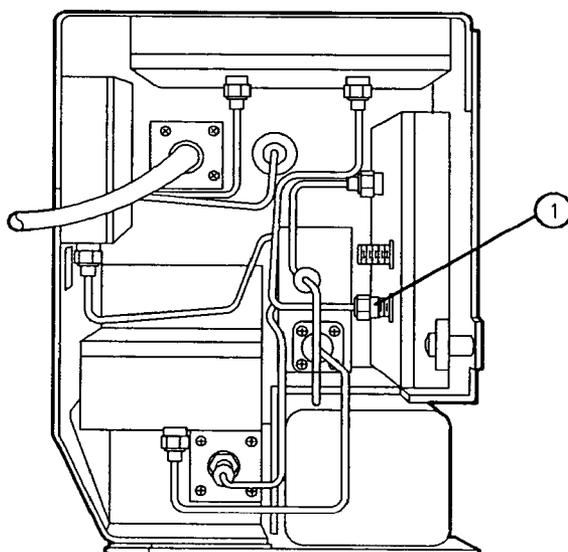
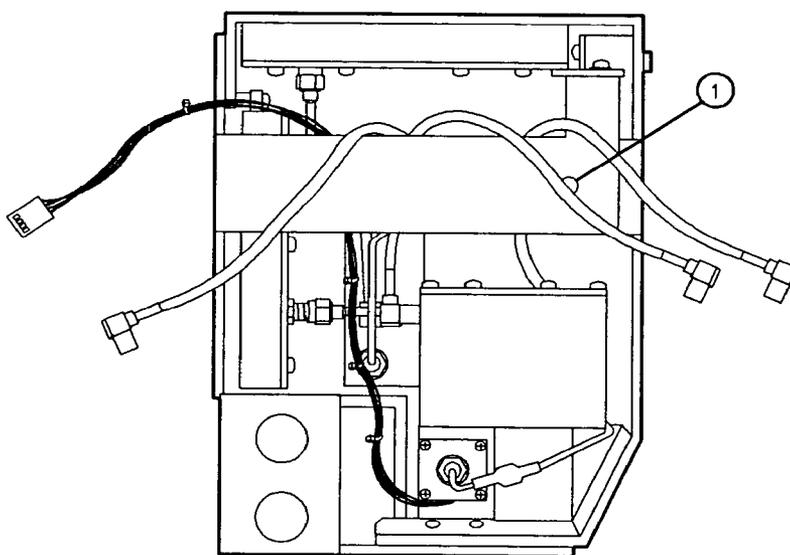
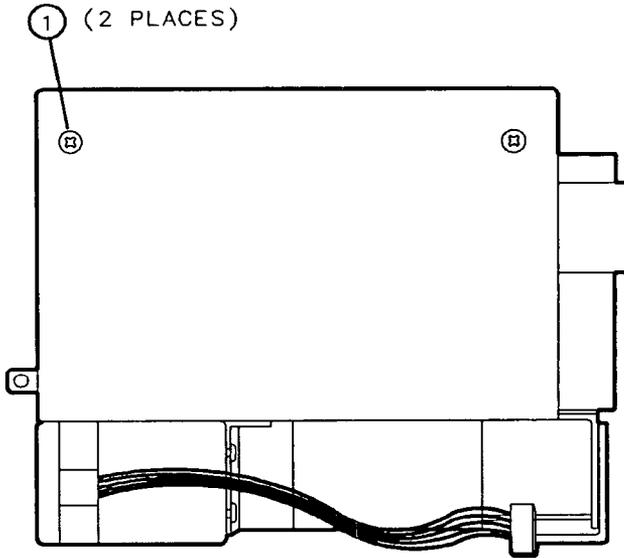

Figure 3-27. Front-End Assembly (Front View)
Figure 3-28. Front-End Assembly (Rear View)
Figure 3-29. Screws Securing Sides of Assemblies
6. Bring the tops of the two assemblies together. See Figure 3-27. Do not pinch any cables.
7. While holding the two assemblies together, install semirigid cable W27 (1). The cable connects the tracking generator's LO INPUT CONNECTOR J2 to the RF assembly's TRACK GEN LO OUT connector.
8. Route all cables as shown in Figure 3-28.
9. Secure the TG assembly to the RF assembly using one screw (1) shown in Figure 3-28. Secure the assemblies using two screws (1) shown in Figure 3-29.